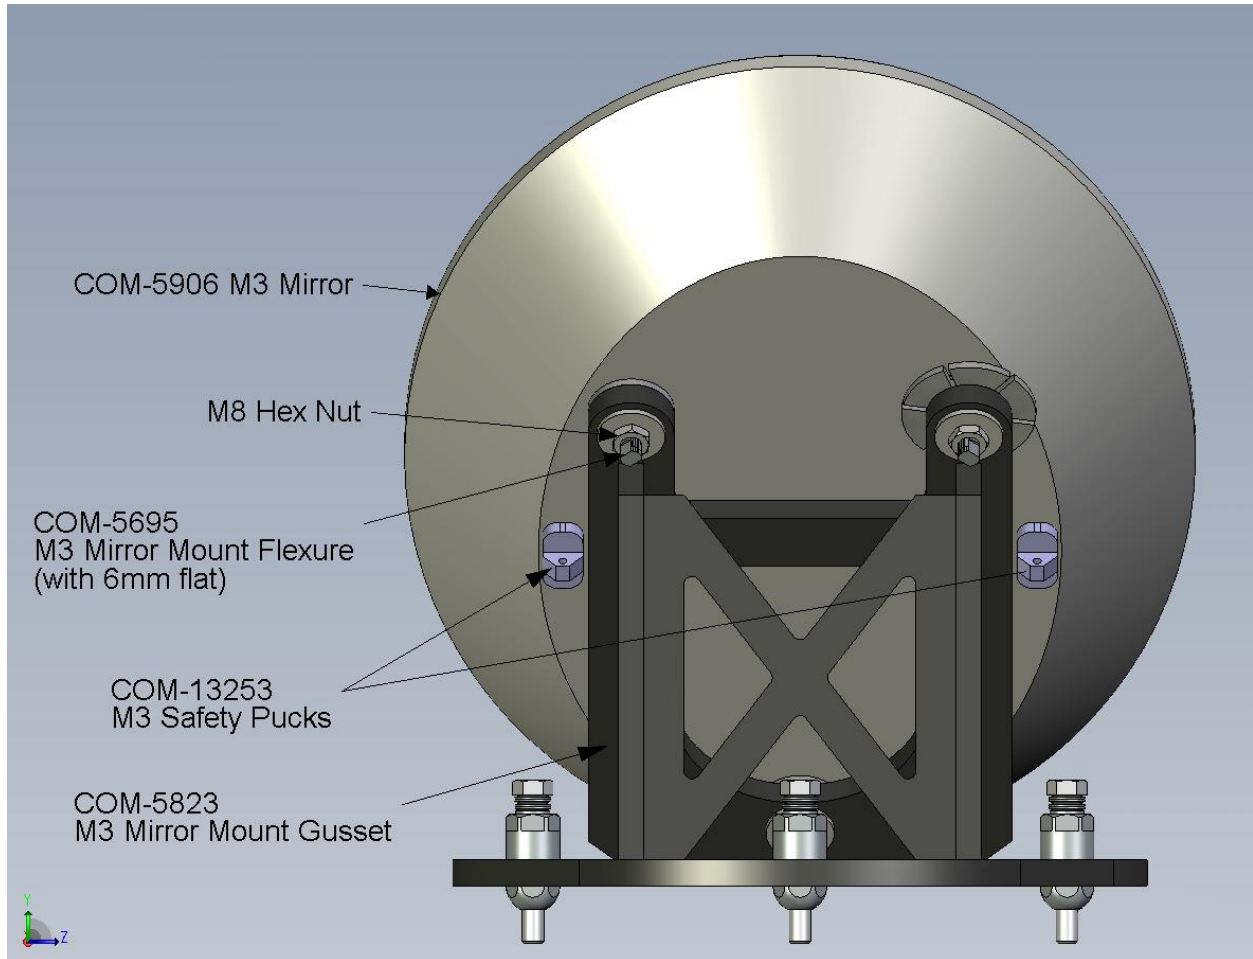

Figure 7 M3 Mirror Mount Assembly Removed from Telescope
5. While holding each corresponding M3 Mirror Mount Flexure (COM-5695) with an M6 Hex Wrench, loosen the three M8 Hex Nuts that secure the Flexures to the M3 Mirror Mount, see Figure 7. It may be necessary to use a shortened M6 Hex Wrench (provided with the telescope tooling) to hold the lower of the three flexures.
5. While one person holds the M3 Mirror (COM-5906) by the edge, thread the three M8 Hex Nuts onto the M3 Mirror Mount Flexures (COM-5695), see Figure 7.